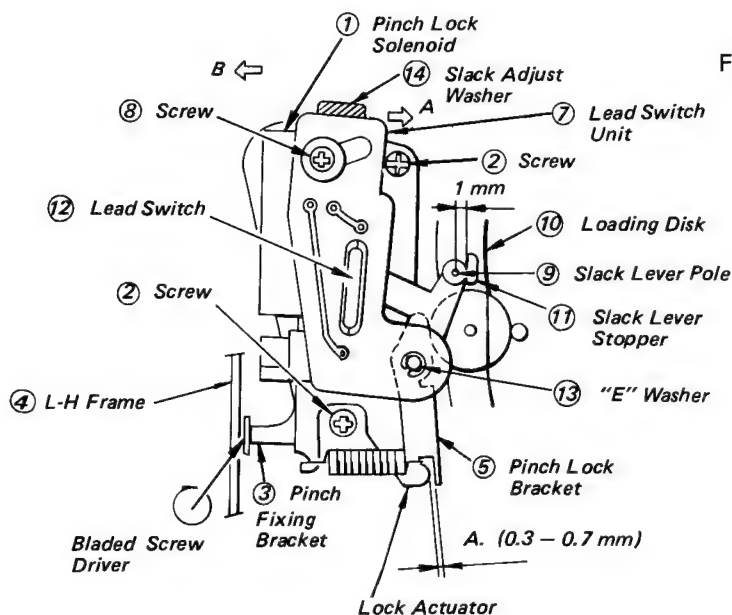

Fig. 5-85 Pinch Lock Assembly Checking, Pinch Roller Pressure Adjustment, and Lead Switch Unit Positioning
### 26-2. Correction (Fig. 5-85)
### 27-1. Checking (Fig. 5-85)
4. Make certain that the clearance A between the pinch lock bracket ⑤ and lock actuator is 0.3 to 0.7 mm (see Fig. 5-85).
5. Make certain that the lead switch ⑫ is turned on for auto-stopping when the slack lever is gradually moved to position the slack lever pole ⑨ at a distance of approximately 1 mm from the slack lever stopper on the loading disk (see Fig. 5-85).
#### 27-2. Adjusting Pressure of the Pinch Roller (Fig. 5-85)
#### 27-3. Lead Switch Unit Positioning (Fig. 5-85)
#### 27-4. Adjusting Height of the Lead Switch (Fig. 5-85)